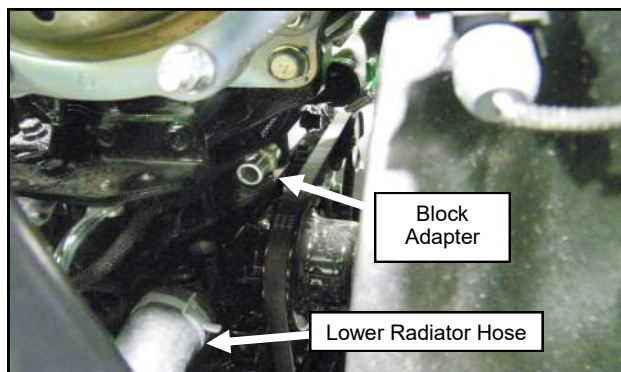

Fig. 18.4 (Install Block Adapter)
- 18.4** Remove the NPT plug from the front of the engine and install the block adapter with Teflon tape. See Figure 18.4.